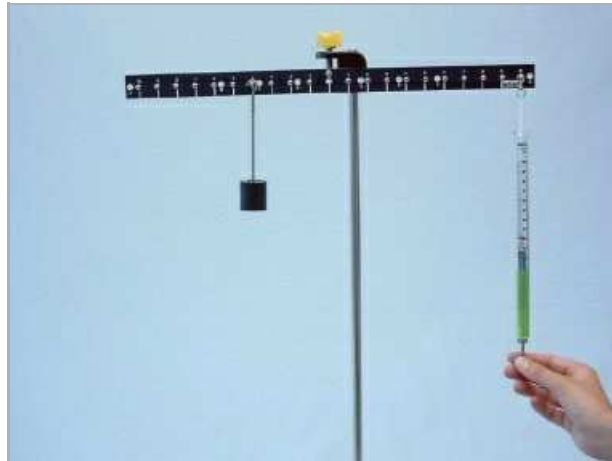

Abb. 7
- Move the load successively to the 8, 6, 4 and 2 marks on the left side and measure the force F for each position (Fig. 7).